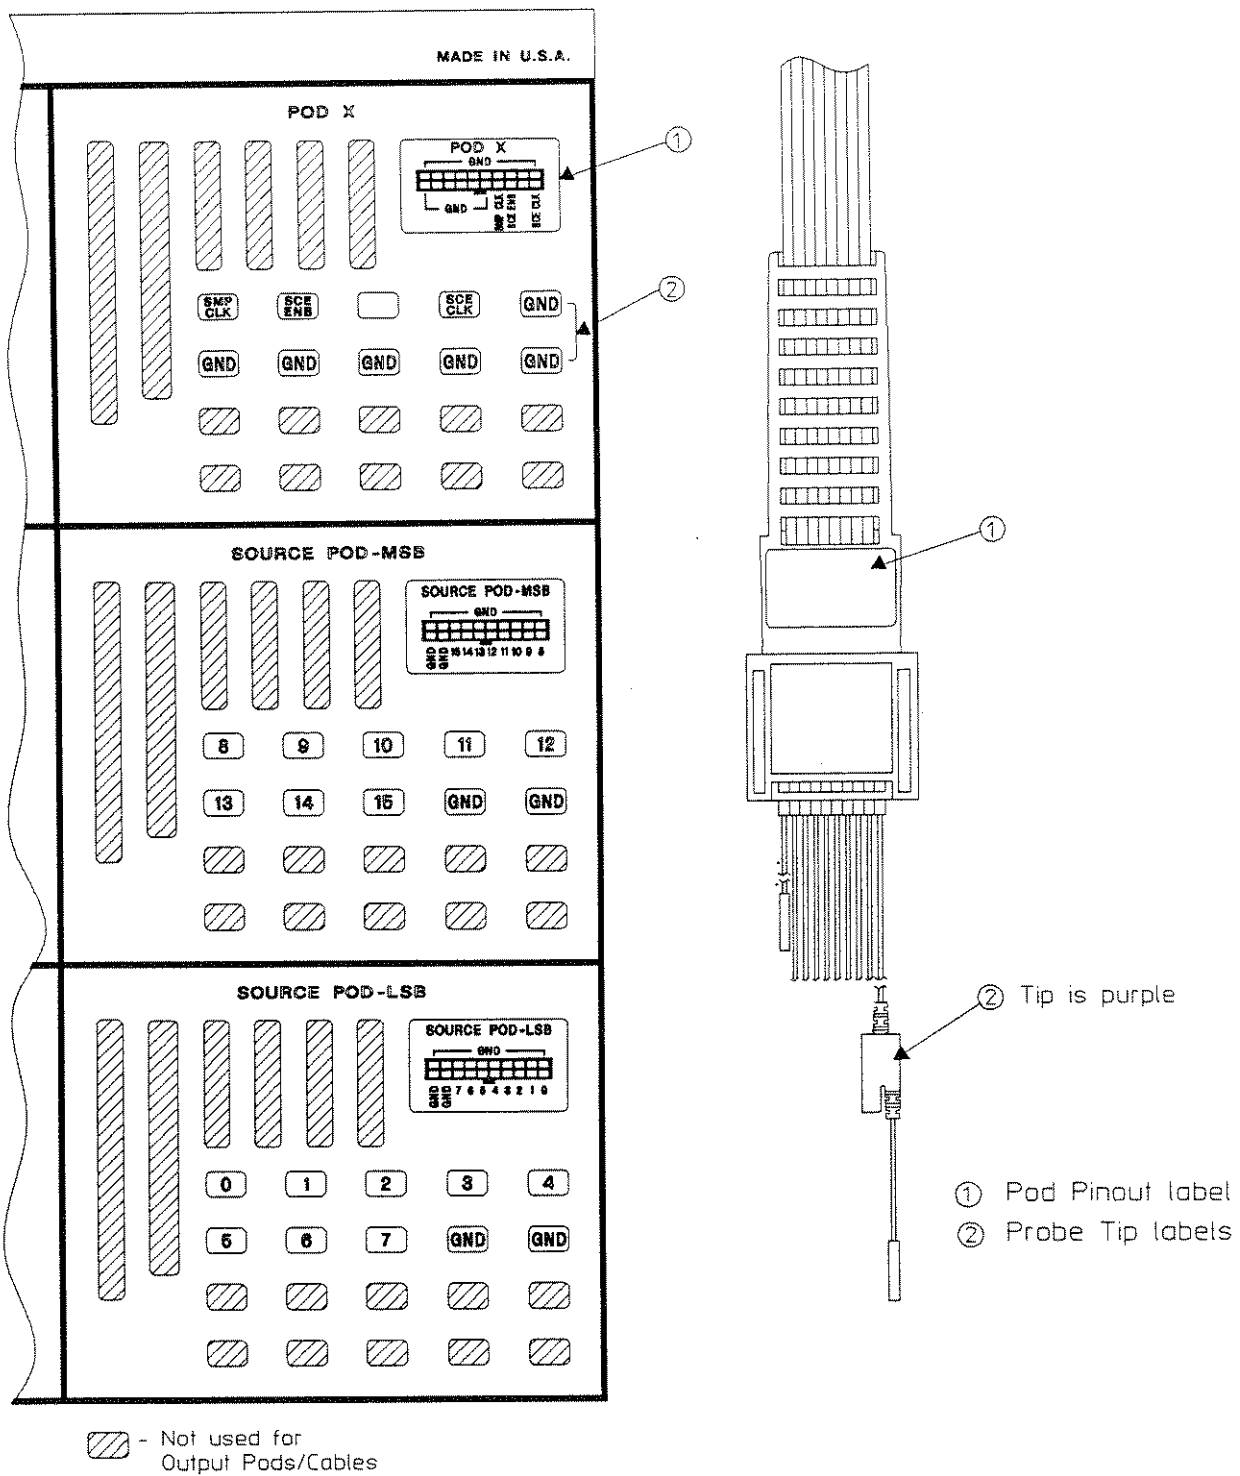

Figure 5-4. Output Cables, Pods and Lables
1. Refer to Figure 5-4.
2. Install the Pod Pinout label shown as #1 in Figure 5-4.
3. Install the Probe Tip labels, shown as #2 in Figure 5-4, to match the pinouts on the Pod Pinout label (#1).